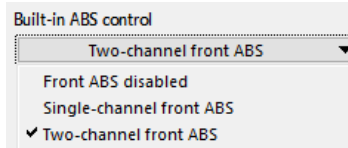

Figure 6. Options for using built-in ABS on an axle.
- ⑦ Dropdown control to select a built-in ABS function. For each axle, ABS control can be specified as single channel control, two channel control, or disabled (Figure 6). In single channel mode, both brakes on an axle are released when the slip at either wheel on that axle exceeds the value set in the Slip OFF field. They are applied again when the slip at both wheels falls below the level specified in the Slip ON field. In two-channel mode, each brake on an axle is controlled individually, releasing when slip exceeds the Slip OFF level, and applying again when slip falls below the Slip ON level. When ABS is disabled, the internal ABS logic is bypassed, and the fields used to set ABS properties (⑧ and ⑨) are hidden.